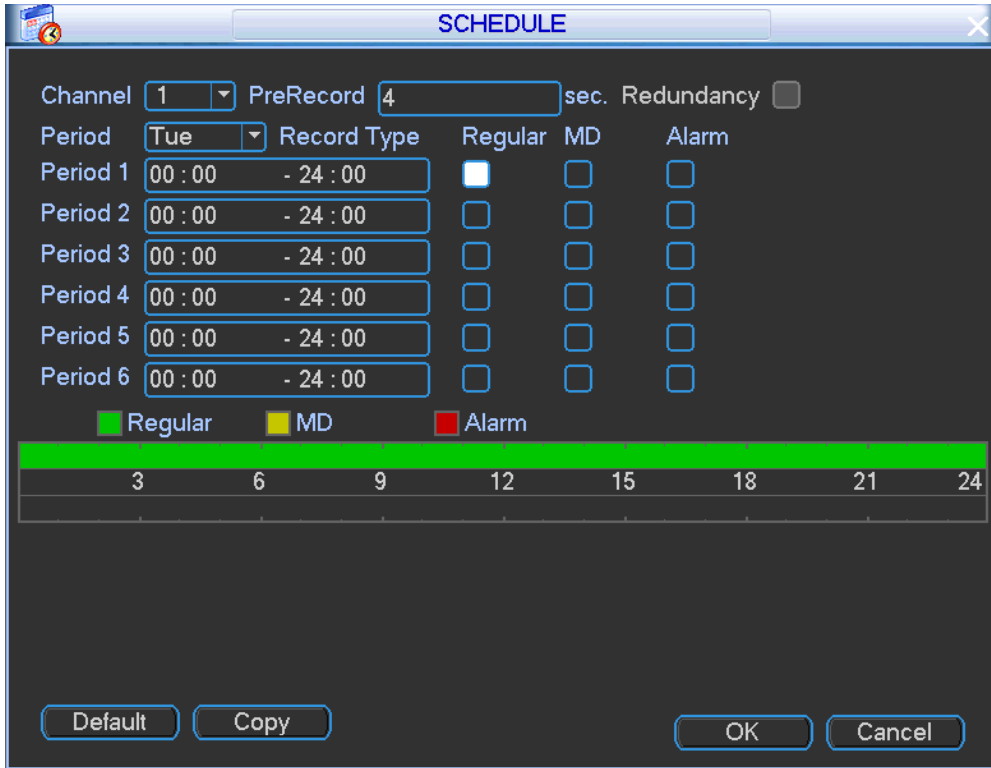

Figure 4-20
Step 1 In the main menu, from setting to schedule, Enter schedule menu. See Figure 4-20.
- Record types: There are three types: regular, MD, and alarm. Green color stands for regular recording, yellow color stands for motion detect (MD) recording, and red color stands for alarm recording.